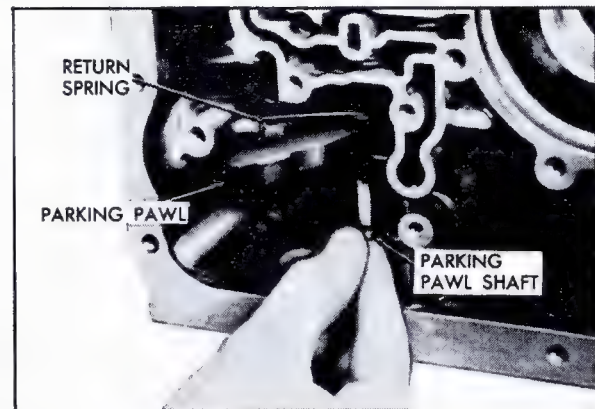

Fig. 7-214 Installing Parking Pawl
a. Install parking pawl (tooth toward inside of case), pawl return spring and parking pawl shaft into case, Fig. 7-214.